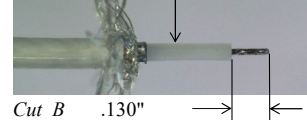

Figure 4
- 5) Install center contact onto the cable center conductor, until contact is fully seated on the center conductor (Fig. 4). Solder the center contact onto the center conductor (Fig. 4).